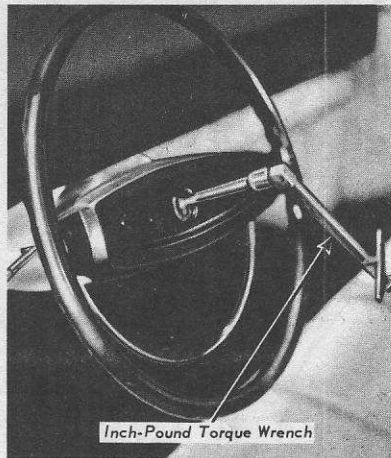

Fig. 11.21 Checking steering gear preload (Sec 17)
- 3 Using a torque wrench on the steering wheel nut (see Fig. 11.21) and with the steering wheel off-center, check that the pull required to rotate the input shaft about  $1\frac{1}{2}$  turns, either side of center, is within the limits specified (see Specifications at the beginning of this Chapter).